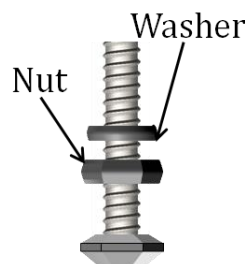

Figure 23
- Take a screw, with the same diameter as the motor's axis, two nuts and two washers that fit the screw. Place one nut and a washer to the screw as shown in Fig. 23.